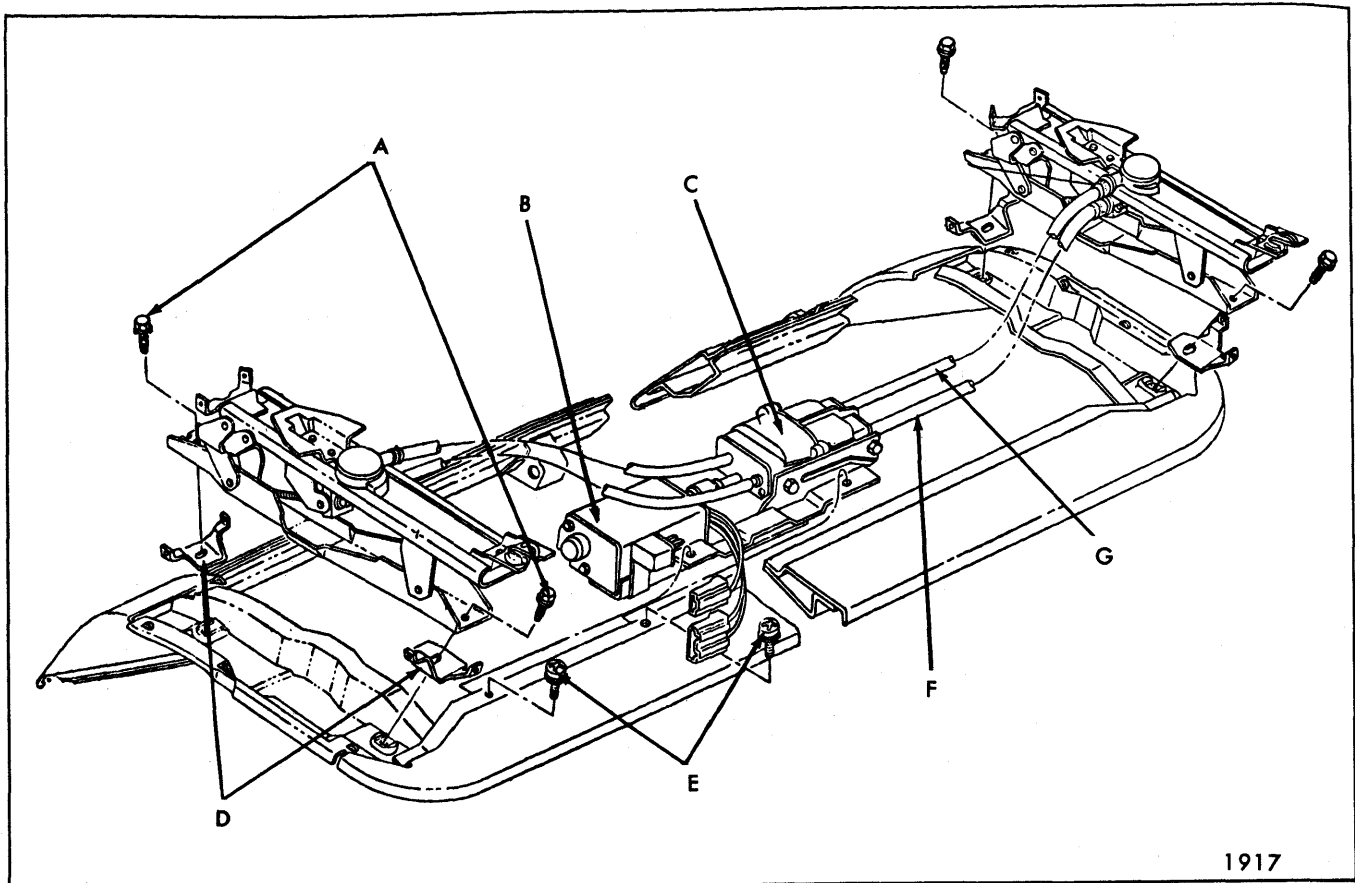

Fig. 10-11—Front Seat Assembly - Four-Way Tilt - "A" Styles
3. Remove screws securing motor and transmission support to seat bottom frame. (Fig. 10-11)
2. Remove seat adjuster-to-seat bottom frame front and rear attaching bolts on side affected (Fig. 10-11).